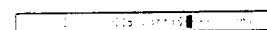

Fig. 21.
- 5 Select a letter or number with $\Delta+$ or $\nabla-$ and press OK. The next element will be highlighted. Select other characters in the same way. If you want to leave an element blank, select - and press OK. (See Fig. 21.)